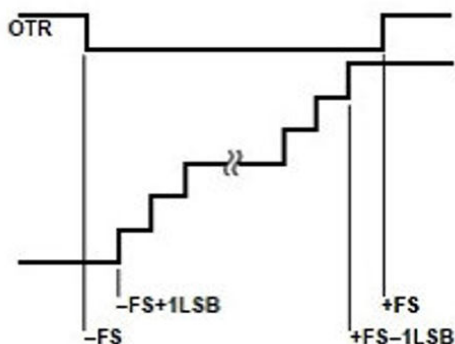

Figure 23. Output Data Format
The ADC's baseband region. A tradeoff exists between the complexity of this image rejection filter and the sample rate as well as the dynamic range of the ADC. Each of the 3PA1030 digital control inputs, 3-STATE (OE) and STBY are references to analog ground. The clock is also referenced to analog ground. The format of the digital output is straight binary (see Figure 23). A low-power mode feature is provided such that for STBY = HIGH and the clock disabled, the static power of the 3PA1030 drops below 5 mW.